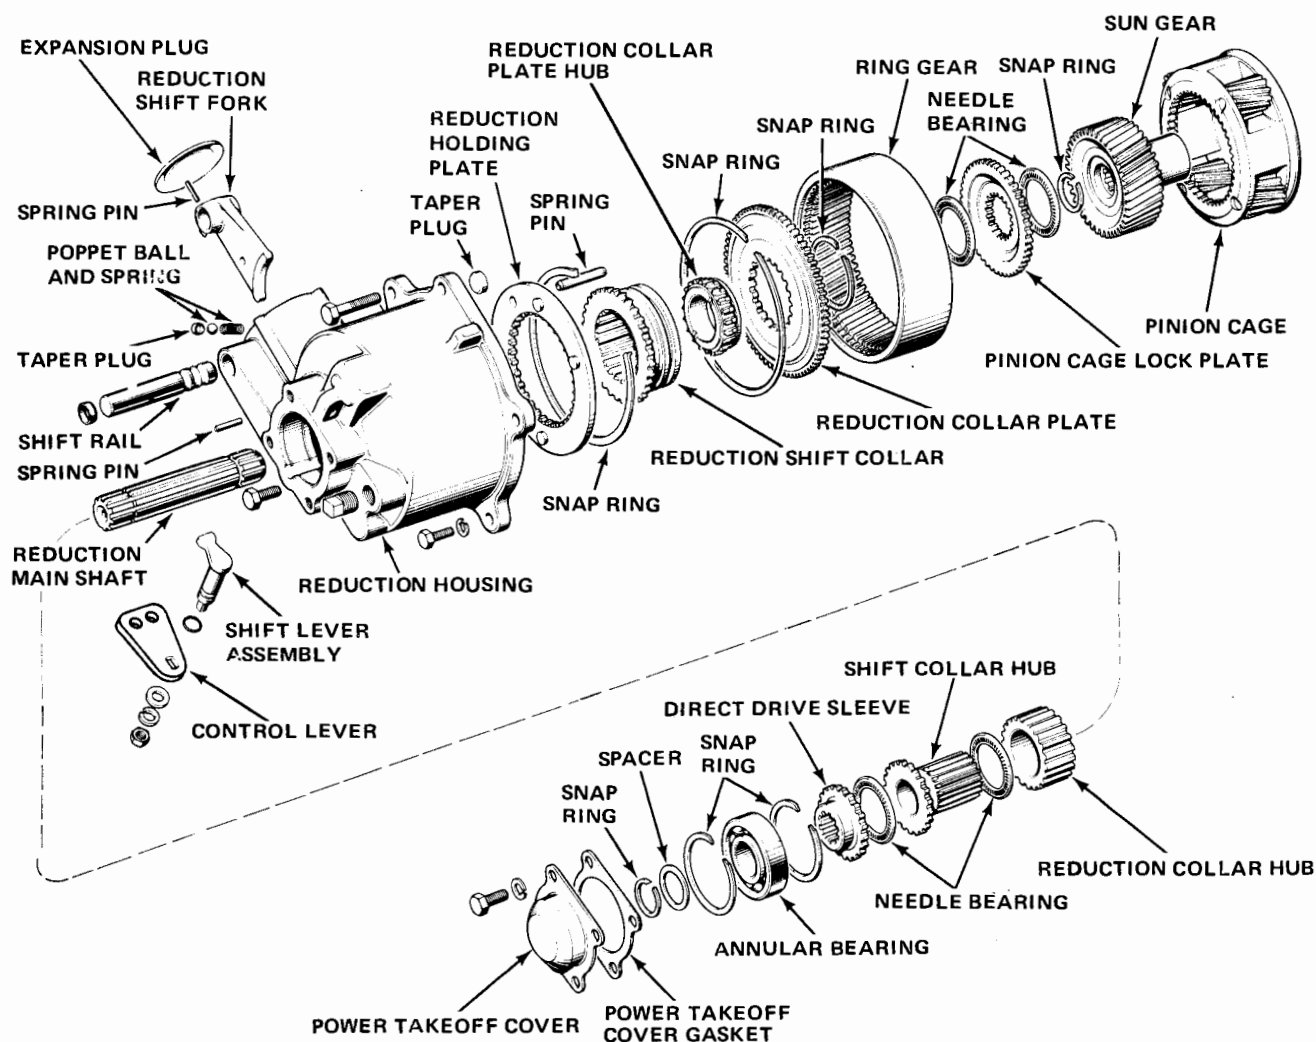
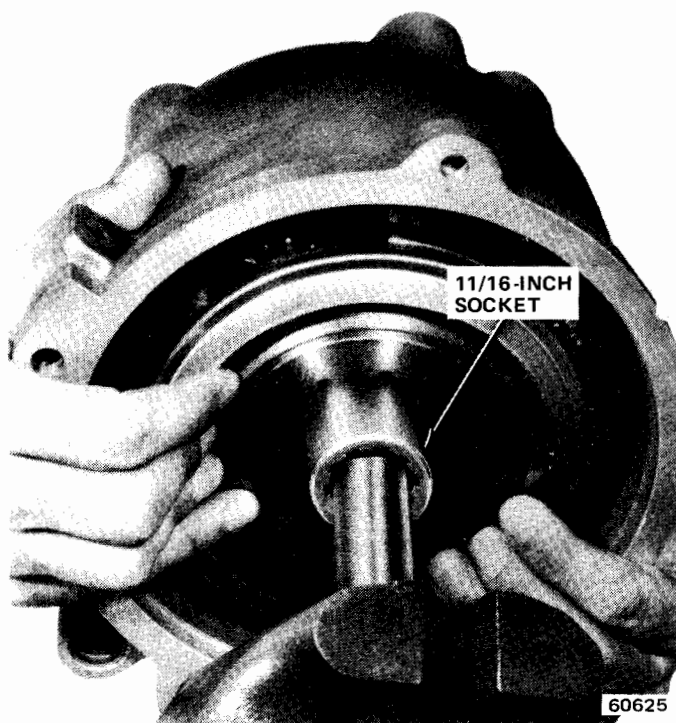
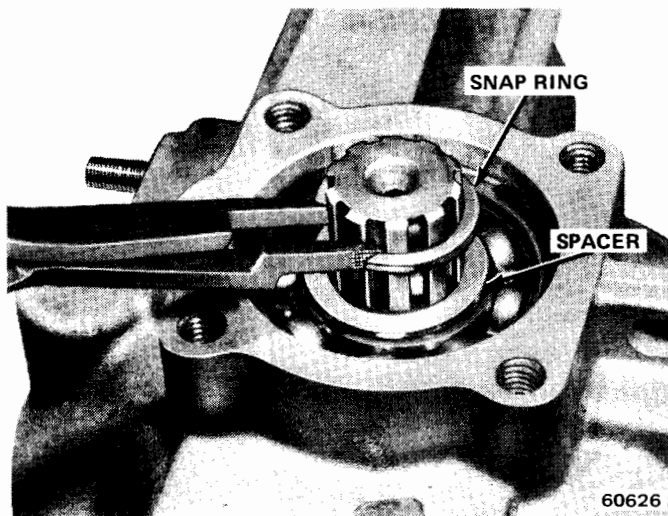

Fig. 8-23 Reduction Unit Components
Fig. 8-24 Mounting Reduction Unit on Socket
Fig. 8-25 Removing-Installing Main Shaft Snap Ring
- (1) Remove power takeoff cover (fig. 8-23).
- (2) Position 11/16-inch, 1/2-inch drive, deep well socket in vise and clamp securely. Allow two inches of socket to extend beyond top of vise.
- (3) Place reduction onto socket. Be sure socket enters bore of sun gear (fig. 8-24). Reduction unit should be supported by socket.
- (4) Move reduction unit control lever rearward to high range position.
- (5) Remove snap ring and spacer from main shaft (fig. 8-25).